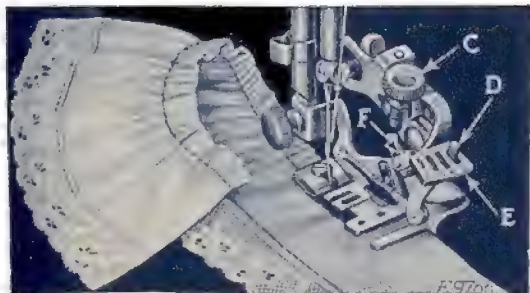

FIG. 60
Raise the needle bar to its highest position and remove the presser foot. Attach the ruffler foot (A, Fig. 59) to the presser bar by means of the thumb screw, at the same time placing the fork arm (B, Fig. 59) astride the needle clamp as shown in Fig. 60.
The adjusting finger (F, Fig. 60) is not intended for gathering and should be moved forward or away from the needle, as shown in Fig. 60.
Raise the adjusting lever (E, Fig. 60) and move it to the left so that the projection (D, Fig. 60) will enter the slot marked "1" in the adjusting lever (E) when the lever is released. The ruffling blade will then move forward and back once at every stitch. Insert the material to be ruffled between the two blue blades, following the line 2 in Fig. 59. Draw the material slightly back of the needle, lower the presser bar and commence to sew.
To make fine gathering, shorten the stroke of the ruffling blade by turning the adjusting screw (C, Fig. 60) upward; also shorten the stitch. To make full gathering, lengthen the stroke of the ruffling blade by turning the adjusting screw (C) downward; also lengthen the stitch. By varying these adjustments, many pleasing varieties of work can be accomplished.